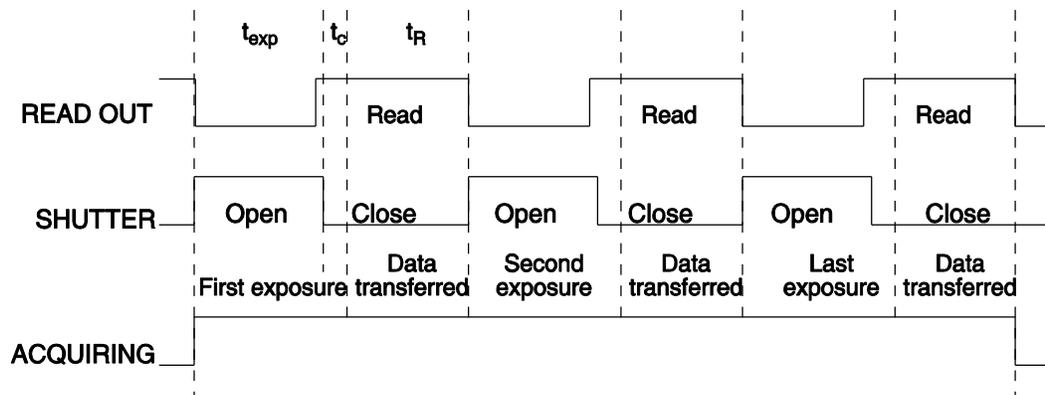

Figure 42. Comparison of READ OUT, SHUTTER, and ACQUIRING Logic Output Levels
- Acquiring:** After a start acquisition command, this output changes state on completion of the array cleaning cycles that precede the first exposure. Initially low, it goes high to mark the beginning of the first exposure. In free run operation it remains high until the system is halted. If a specific number of frames have been programmed, it remains high until all have been taken and then returns low. Figure 42 assumes 3 frames have been programmed.